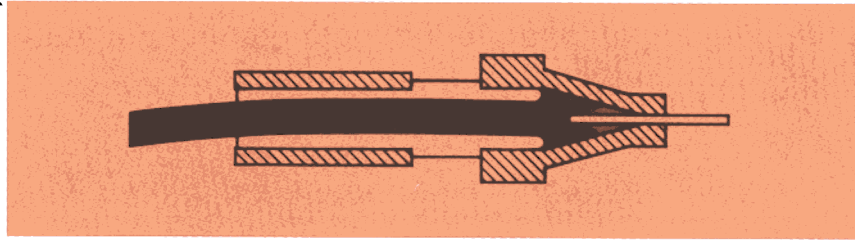

FIGURE 1
■ Bonding optical fibers to connectors. After the fiber is stripped, it is coated with an epoxy adhesive, and then slipped into the connector (Fig. 1). An alternative method involves injecting the adhesive into the connector with a syringe. After heat curing, the end face of the connector and fiber is ground and polished. Note: To allow connector termination of PCS fibers using an epoxy, recladding of the stripped fibers may be accomplished with EPO-TEK 394, a low-index polymer. This eliminates attenuation due to stripping damage.